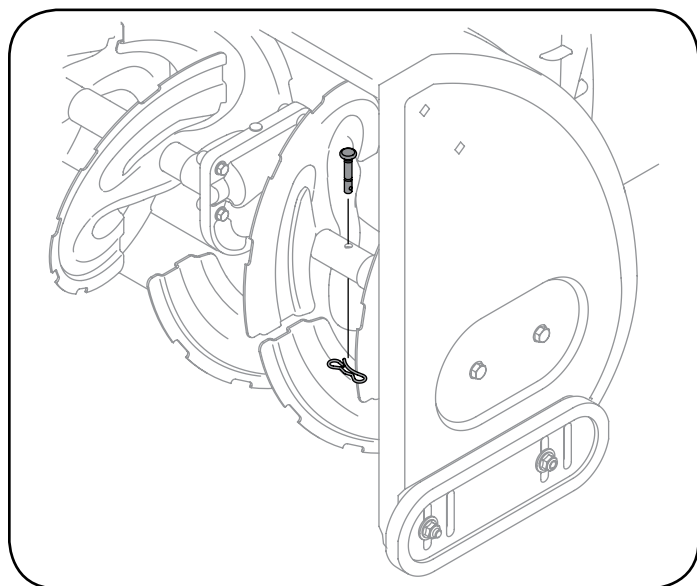

Figure 39
- The auger is secured to the spiral shaft using round head shear pins - OEM Part No. 738-04124A. See Figure 39.